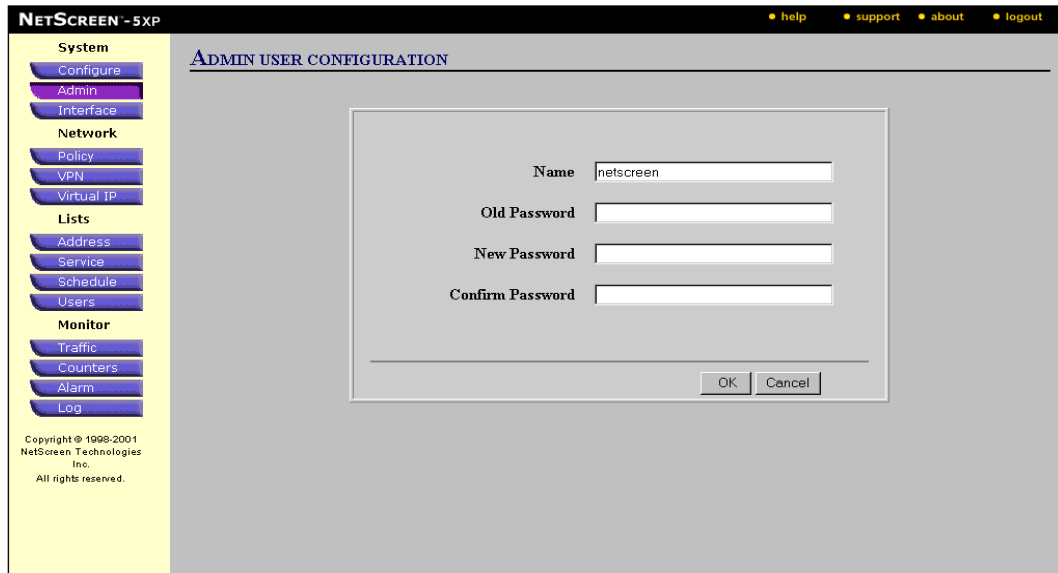

Figure 3-11 Admin User Configuration Menu
2. On the Local Administrator Name click **Edit** under **Options**. The Admin User Configuration Menu appears, as in Figure 3-11 on page 3-13.